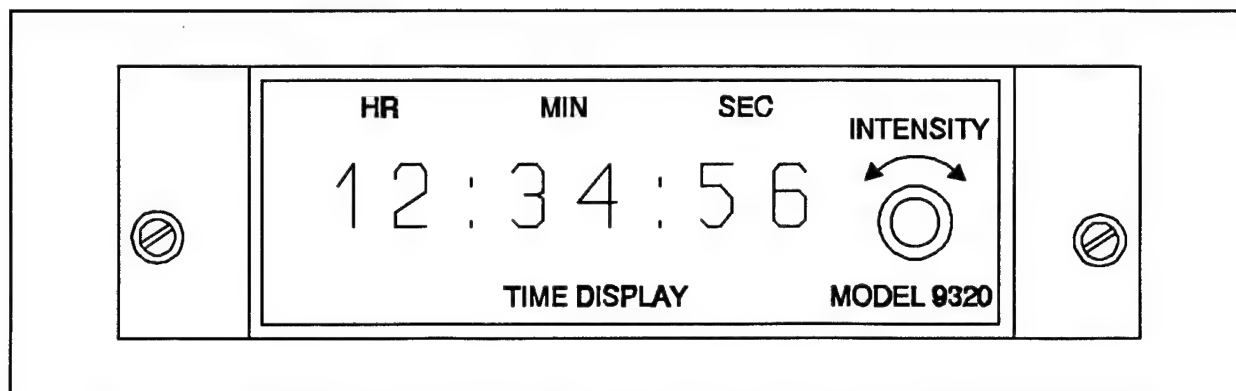

Figure 9-2. Range Time Display
A display for presenting range time (Figure 9-2) is in the right hand rack located above the RCP. This is a six-digit decimal display indicating UTC (Universal Time Coordinated) in hours (00-23), minutes (00-59), and seconds (00-59). This time is initially set into an on-board time code generator during Special Instrumentation (SI) preflight and will be available and current if DAS power is re-cycled.